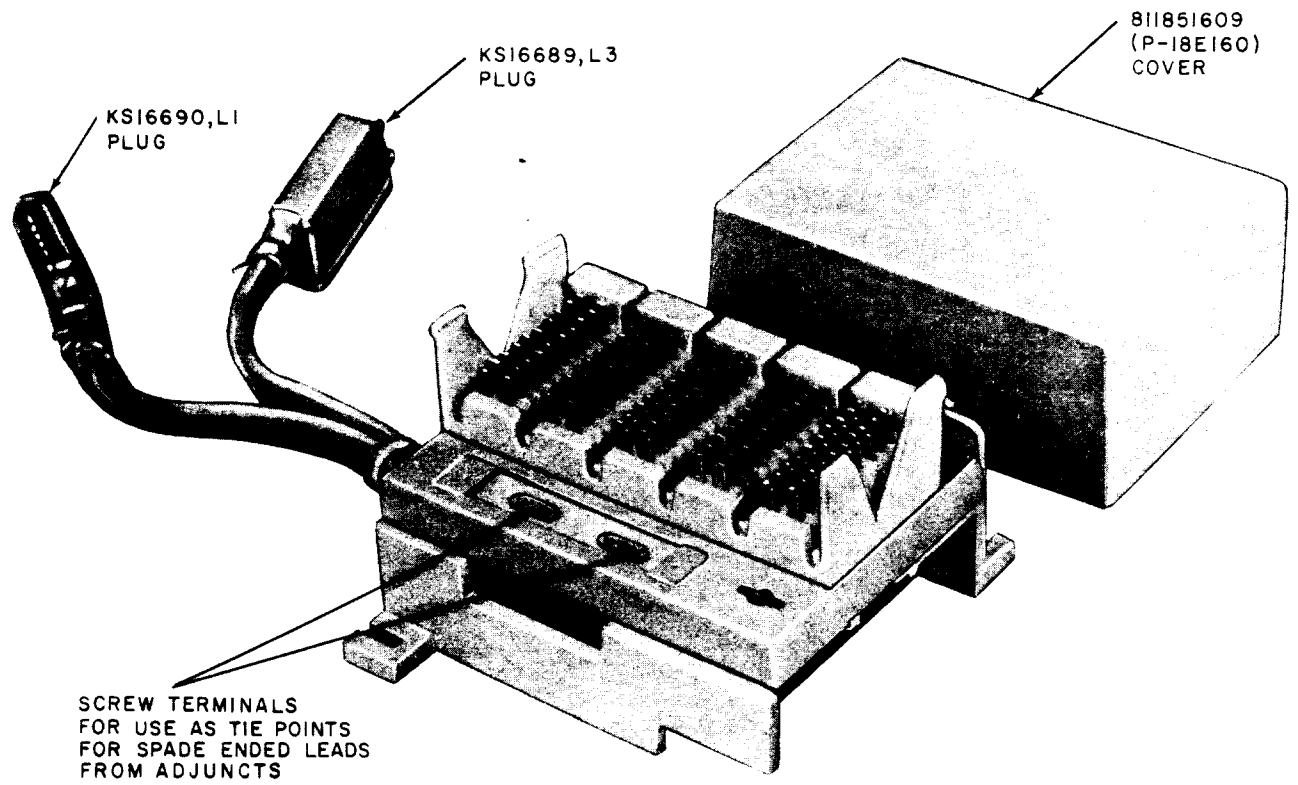

Fig. 3—66E8-25 Connecting Block
2.06 The 66E8-25 connecting block (Fig. 3) is equipped with a molded plastic base and provides full access to the 50 conductors of the connector cable and mounting cord supplying a